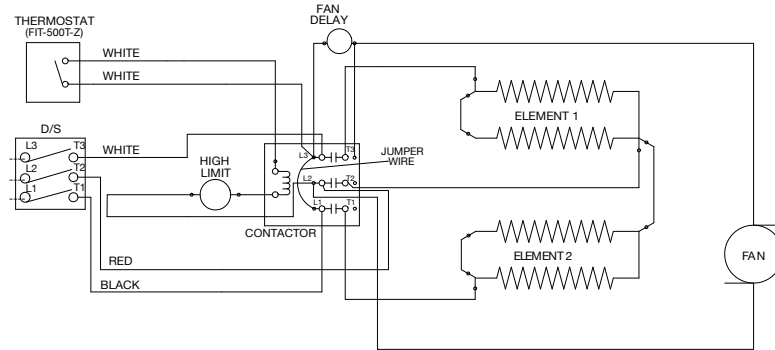

Figure 3
4. Connect stripped wires from the contactor to the disconnect switch as follows. Black wire to T1 and Red wire to T2 (and White wire to T3 for three phase). See Wiring Diagram, Figure 3.
4. Connect stripped wires from the contactor to the disconnect switch as follows: Black wire to T1 and Red wire to T2 (and White wire to T3 for three phase). See Wiring Diagram, Figure 3.
2. Connect heater white wires to "L2" and "cycle" terminals on the thermostat as shown in the wiring diagram, Figure 3.